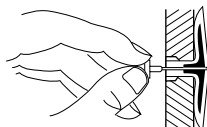

**Figure 9 - Folding Anchor**
2. Fold wall anchor as shown in Figure 9.